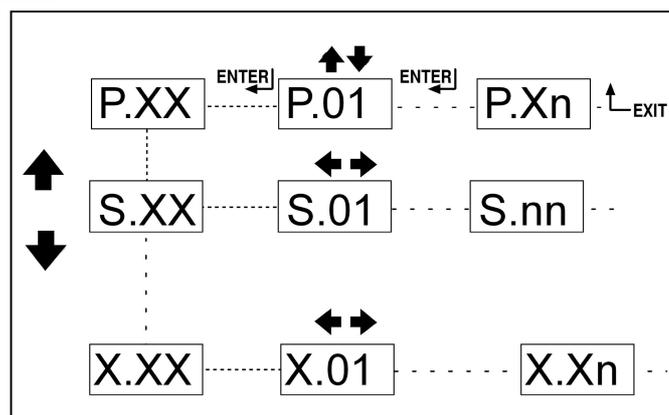

Fig. 2 - Mode navigation
4.4.3 Mode navigation (ref. to fig. 2)